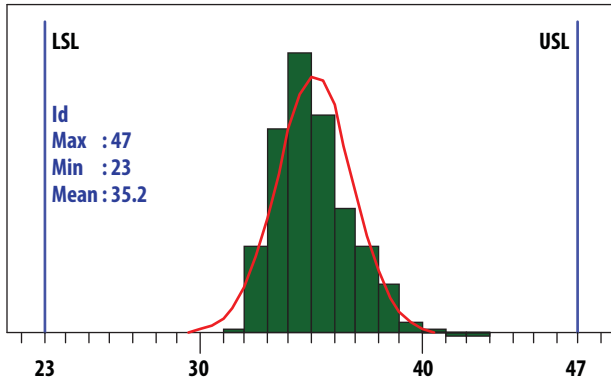

Figure 1. Idd @ 1.9 GHz Mean = 35.2 mA
1. Measurements at 1.9 GHz obtained using demo board described in Figure 1.